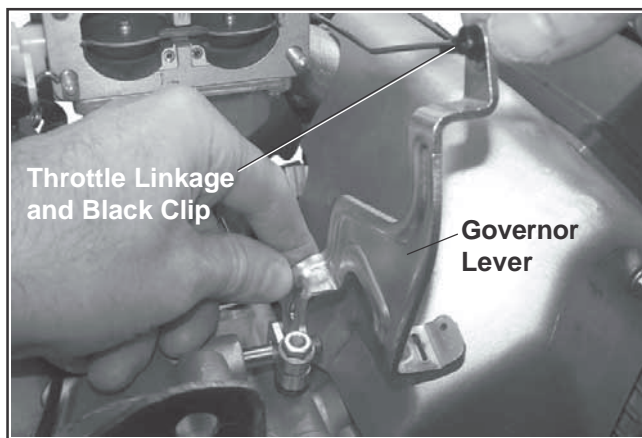

Figure 10-93. Installing Governor Lever.
1. Install the governor lever onto the governor shaft and connect the throttle linkage with the black clip. Do not tighten the governor lever at this time. See Figure 10-93.